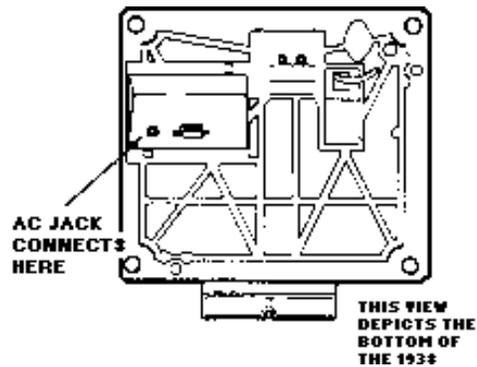

Figure 8b
- 9). If the optional wall transformer assembly is used, it is connected to the jack on the bottom of the base as shown in Figure 8b.